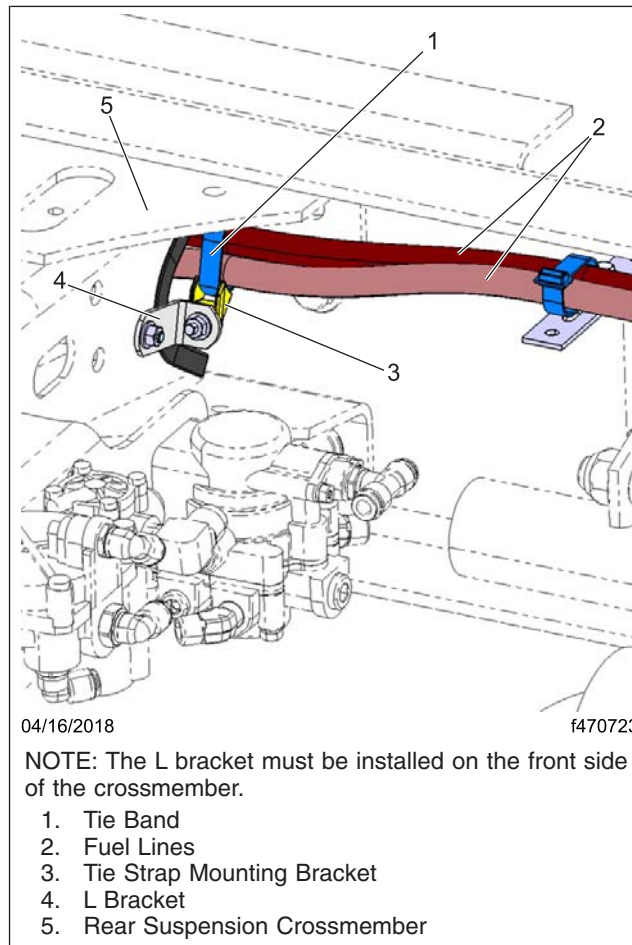

Fig. 15, Fuel Line Routing, Rear Suspension Crossmember
10. Inspect the rear suspension crossmember for an L bracket and tie band mount after the rear axle as shown in **Fig. 15**. Ensure that the L bracket is oriented as shown.
4. Inspect the rear suspension crossmember for an L bracket and tie band mount after the rear axle as shown in Fig. 15 on page 17. Ensure that the L bracket is oriented as shown.